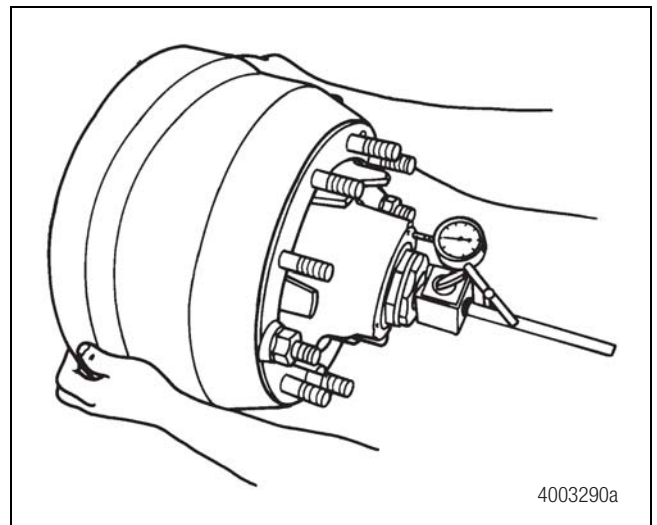

Figure 10.9
- C. Slightly rotate the wheel end in both directions while pulling outward until the dial indicator does not change. Figure 10.9.